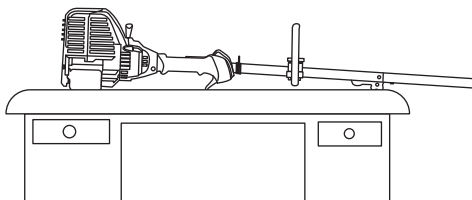

Fig. 18
2. Place the engine on an elevated, level surface with the cutting head shield hanging off the surface to get a proper oil level reading (Fig. 18).